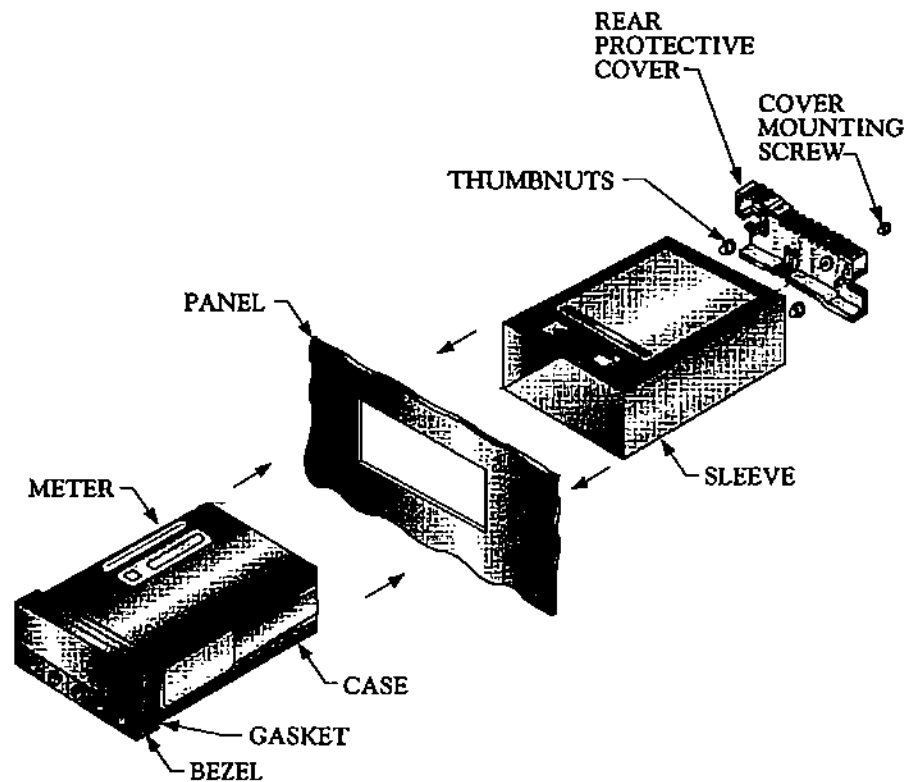

Figure 5-13. Panel Mounting
3. Insert the case and meter into the hole from the front of the panel, so that the gasket seals between the bezel and the front of the panel. Refer to Figure 5-13.